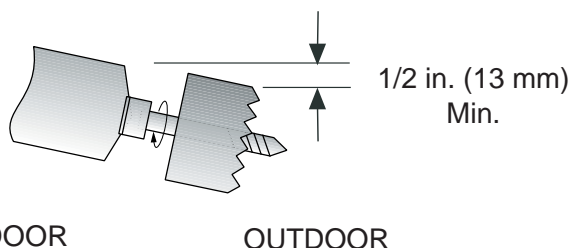

Fig. 9 – Drill Holes
1. Determine the pipe hole position using the mounting plate as a template. Drill pipe hole diameter per values given in Fig. 2 through 5. The outside pipe hole is 1/2-in. (13 mm) min. lower than inside pipe hole, so it slants slightly downward (see Fig. 9).